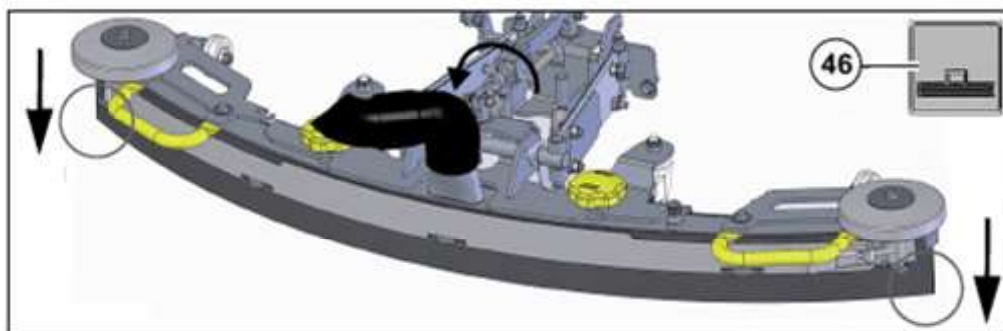

Figure 7.2b
1. Place the machine on a level surface and lower the squeegee using the squeegee key figure 7.2b -46.
The distance between the sealing strip and the ground decreases at the ends figure 7.2b.